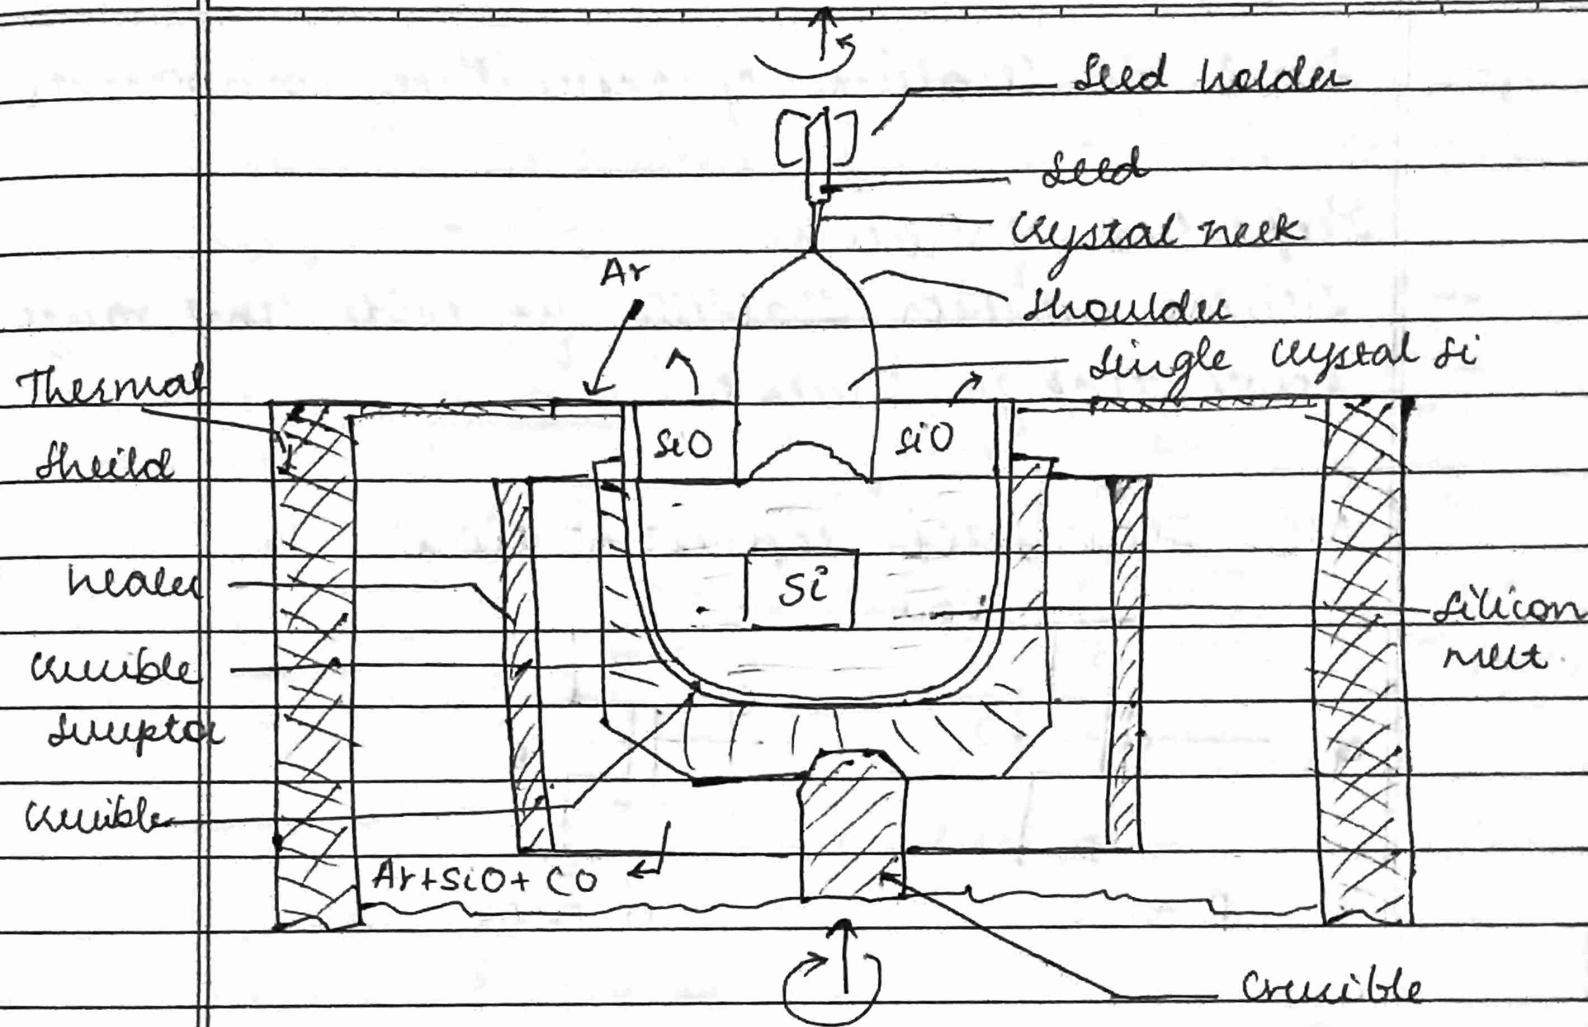

Fig. 1. Beginning of crystal growth.
- \rightarrow CZ method. (Fig 1.) [Sand to silicon]